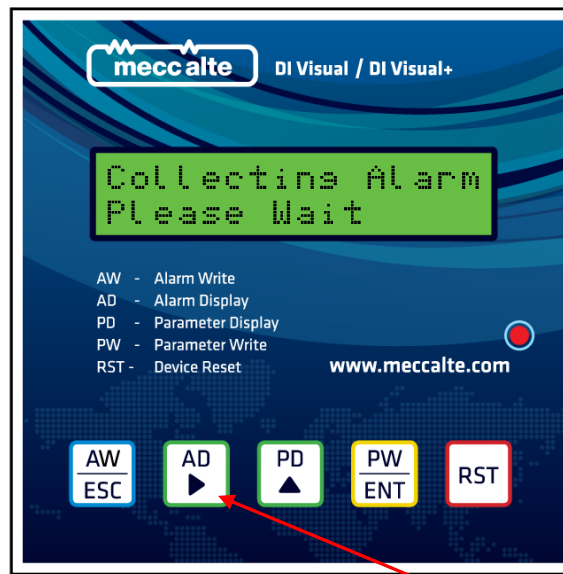

fig. 15
- 1) Keep the  key pressed as shown in image above to pull the alarm values from DSR and display them on the LCD. Keep the key pressed until you see “Collecting Alarm” message as shown in Fig. 15.